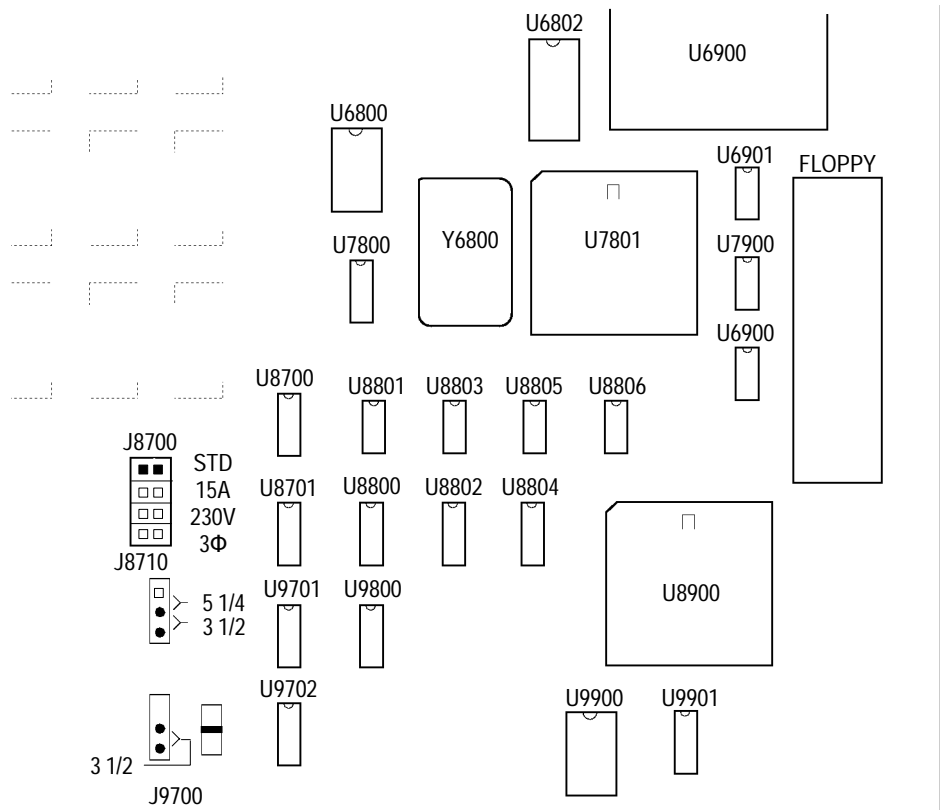

Figure 2: Location of Jumpers J8710 and J9700 on the New Controller Board
3. Refer to Figure 2 on page 6 and move jumper J8710 on the new Controller board to the 5 1/4 position; remove the jumper at J9700.
3. Refer to Figure 2 on page 6 and move jumper J8710 on the new Controller board to the 5 1/4 position; remove the jumper at J9700. (You will return these jumpers to their original position after installing the application software on the new hard disk.)
9. Refer to Figure 2 on page 6 and move jumper J8710 to the 3 1/2 position and install a jumper at J9700.